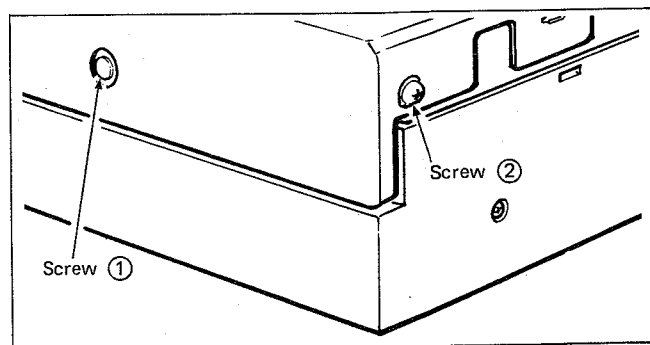

Fig. 8
1. Remove screws ① and ② where located on both sides of the top cover as shown in Fig. 8.